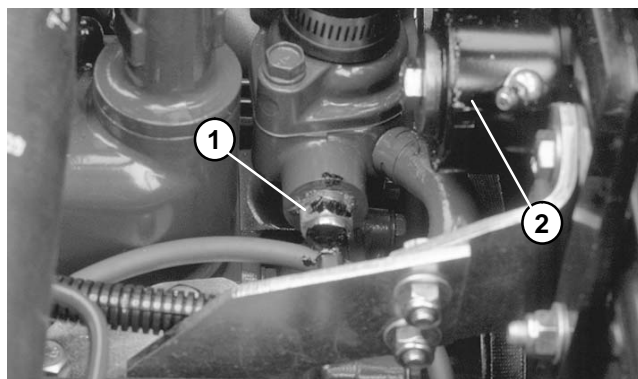
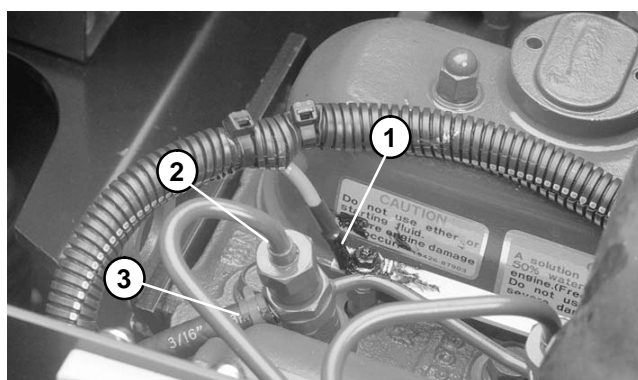

Figure 30
Figure 31
- C. High temperature shutdown switch (Fig. 30). Glow plug bus (Fig. 31).
8. Disconnect fuel hose from the rear injector nozzle (Fig. 31).
8. Connect fuel hose to the rear injector nozzle (Fig. 31).
- A. Glow plug bus (Fig. 31). High temperature shut-down switch (Fig. 30).